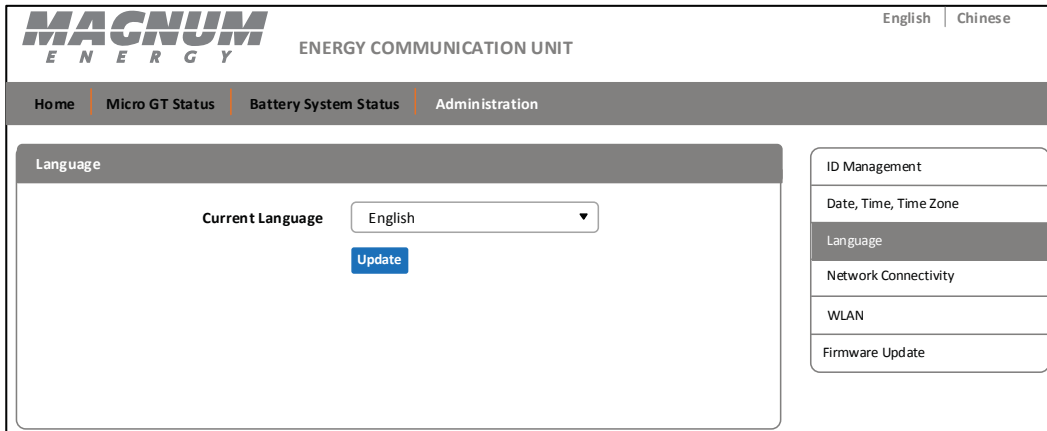

Figure 29, Language Management Screen
1. From the *Administration* tab, select the *Language* option from the list to the right. The Language screen appears (Figure 29).